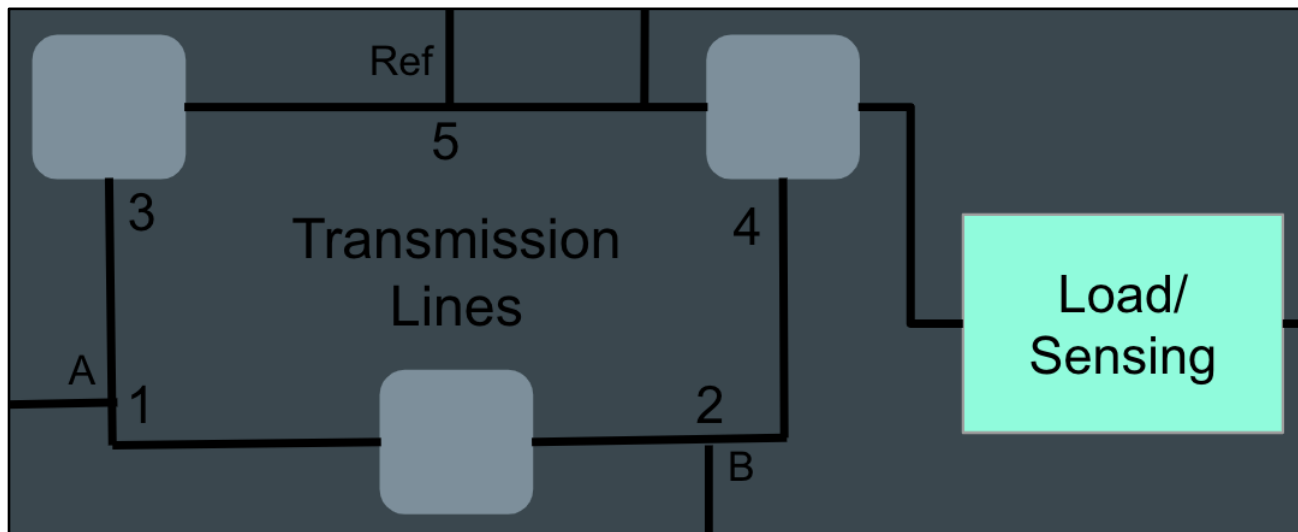

Figure 1: Basic schematic of the grid
2. Attach the probes to point 1 and point 3 (comparing Generator A to the point it is being added to the grid), according to Figure 1.
5. These steps will be repeated for generator B, with the PicoScope initially measuring at points 2 and 4 in Figure 1 (moving point 2 to point 5 in step 4). After closing the toggle switch, if voltage amplitudes are remaining constant, then the grid is running properly.
Figure 2 & 3: Current and voltage signals, phase diagram, and calculated values measured in the inductive load circuit are shown in the left GUI window (2a, 3a). The right window (2b, 3b) shows the oscilloscope signal measured at points 1 and 2 in Figure 1; in Figure 3, generators A and B were removed from the grid.